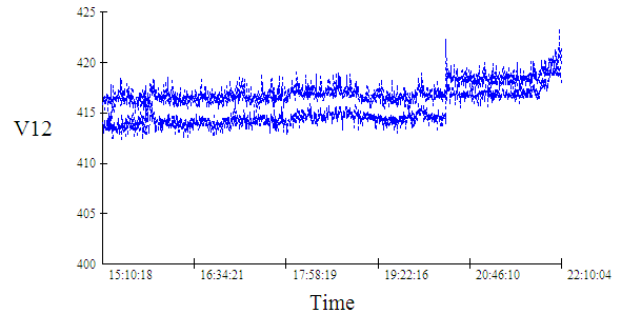
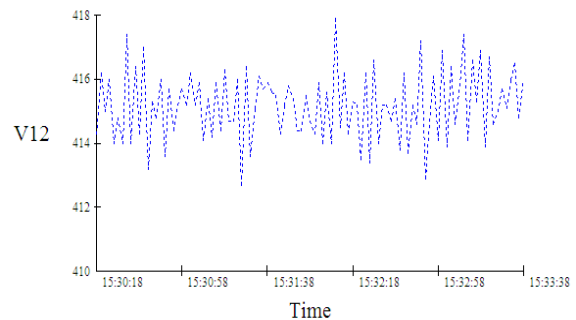

Fig 1-(voltage Vs time)
Fig 2-(Scaled picture)
Fig .1 represents the line to line voltage (RY). The voltage Varies between 413 V to 418 V (see fig 2) .